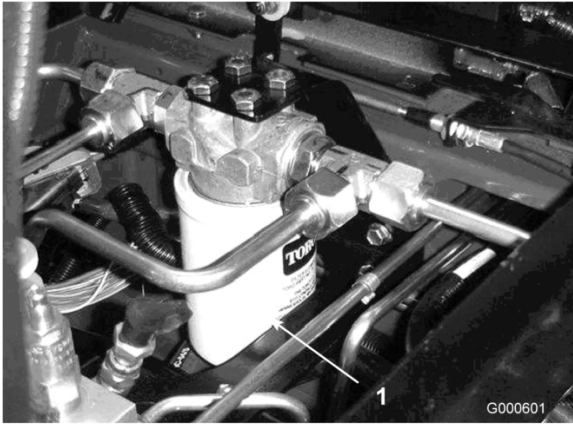
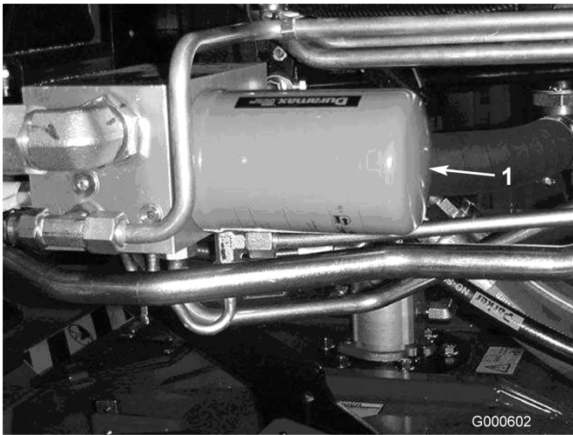

Figure 53
Figure 54
2. Clean the area around the filter mounting area. Place a drain pan under the filter and remove the filter (Figure 53 and Figure 54).